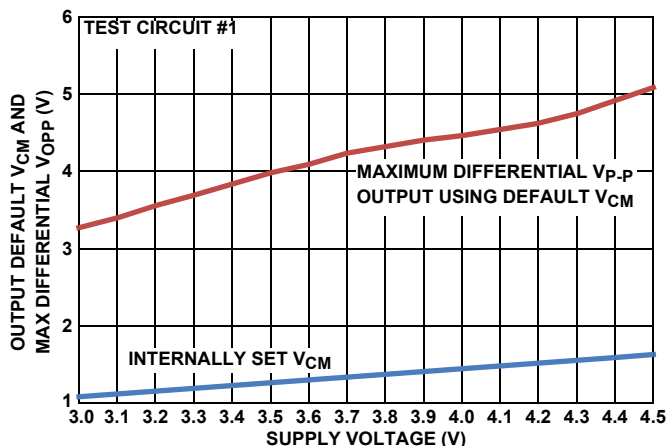
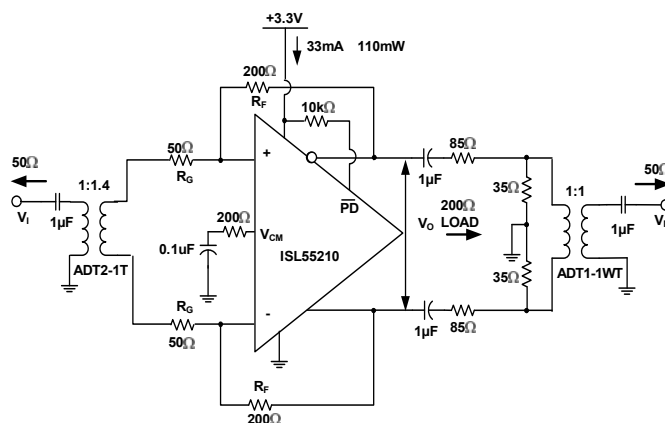

FIGURE 26. DEFAULT V_{CM} AND MAX V_{OPP} vs SUPPLY VOLTAGE
FIGURE 28. TEST CIRCUIT #1
The circuit of Figure 28 forms a starting point for many of the characterization curves for the ISL55210. Since most lab sources and measurement devices are single-ended, this circuit converts to differential at the input through a wideband transformer and would also be a typical application circuit coming from a single ended source. Assuming the source is a 50Ω impedance, the R_G resistors are set to provide both the input termination and the gain. Since the inverting summing nodes act as virtual ground points for AC signal analysis, the total termination impedance across the input transformer secondary will be $2 * R_G$. Setting this equal to $n^2 * R_S$ will give a matched input impedance inside the bandwidth of the transformer (where "n" is the turns ratio). The amplifier gain is then set by adjusting the feedback resistors
Working with a transformer coupled input as shown in Figure 28, or with two DC blocking caps from a differential source, means the output common mode voltage set by either the default internal V_{CM} setting, or a voltage applied to the V_{CM} control pin, will also appear as the input common mode voltage. This provides a very easy way to control the ISL55210 I/O common mode operating voltages for an AC coupled signal path. The internal common mode loop holds the output pins to V_{CM} and, since there is no DC path for an I_{CM} current back towards the input in Figure 28, that V_{CM} setting will also appear as the input common mode voltage. It is useful, for this reason, to leave any input transformer secondary centertap unconnected. The internally set V_{CM} voltage is referenced from the negative supply pin. With a single 3.3V supply, it is very close to 1.2V but will change with total supply voltage across the device as shown in Figure 26.
Most of the characterization curves start with Figure 28 then get different gains by changing the feedback resistor, R_F , use different input transformers where then the R_G is also adjusted to hold an input match, or vary the loading. For load tests below the 200 Ω shown in Figure 28, a simple added shunt resistor is placed across the output pins. For loads >200 Ω , the series and shunt load R 's are adjusted to show that total load (including the 50 Ω measurement load reflected through the 1:1 output measurement port transformer) and provide an apparent 50 Ω differential source to that transformer. This output side transformer is for measurement purposes only and is not necessary for final applications circuits. There are output interface designs that do benefit from a transformer as part of the signal path, but the one shown at the right of Figure 28 is used only for characterization to get a doubly terminated 50 Ω measurement path going differential to single ended.
The characterization circuit of Figure 28 shows one possible input stage interface that offers several advantages. The ISL55210 can also support a DC coupled differential to differential or single ended input to differential requirement if needed. Where AC coupling is adequate, the circuit of Figure 28 simplifies the input common mode voltage control. If the source coming into this stage is single ended, the input transformer provides a zero power conversion to differential. The two gain resistors (R_G in Figure 28) provide both the input termination impedance and the gain element for the amplifier. For minimum noise, only R_G should be used and set to achieve the desired input impedance. Since the ISL55210 is a VFA device, these resistor values can be scaled up and down a bit more freely than a current feedback based FDA.
3.6V_{P-P} output capability. The V_{P-P} reported in Figure 26 is an asymmetrically clipped maximum swing. Going 10% above this 3.7V target to 4.1V will be within the recommended operating range and give some tolerancing headroom that would also suggest the V_{CM} voltage be moved up to approximately 1.5V. This coincides with the default output V_{CM} from Figure 26. Operating at +4.1V single supply in a Figure 28 type configuration will give the maximum linear available output swing of 3.6V_{P-P}.
The differential inputs of the ISL55210 also have operating range limits relative to the supply voltages. Operating in an AC coupled circuit like Figure 28 will produce an input common mode voltage equal to the outputs. The inputs can operate with full linearity with this V_{CM} voltage down to 1.1V above the GND connection (or -V_S supply). On the default 1.2V output V_{CM} on +3.3V supplies this gives a 100mV guardband on the input V_{CM} voltages. Overriding the default V_{CM} by applying a control voltage to the V_{CM} pin should be done with care in going towards the negative supply due to this limit. On the + side, the maximum V_{CM} above the -V_S supply is 2V so there is more room to move the output V_{CM} up than down from the default value.
Test circuit #1 (Figure 28) is implemented on an Evaluation Module Board available from Intersil. This board includes a number of optional features that are not populated as the board is delivered. The full EVM board circuit is shown in Figure 38 where unloaded (optional) elements are shown in green.